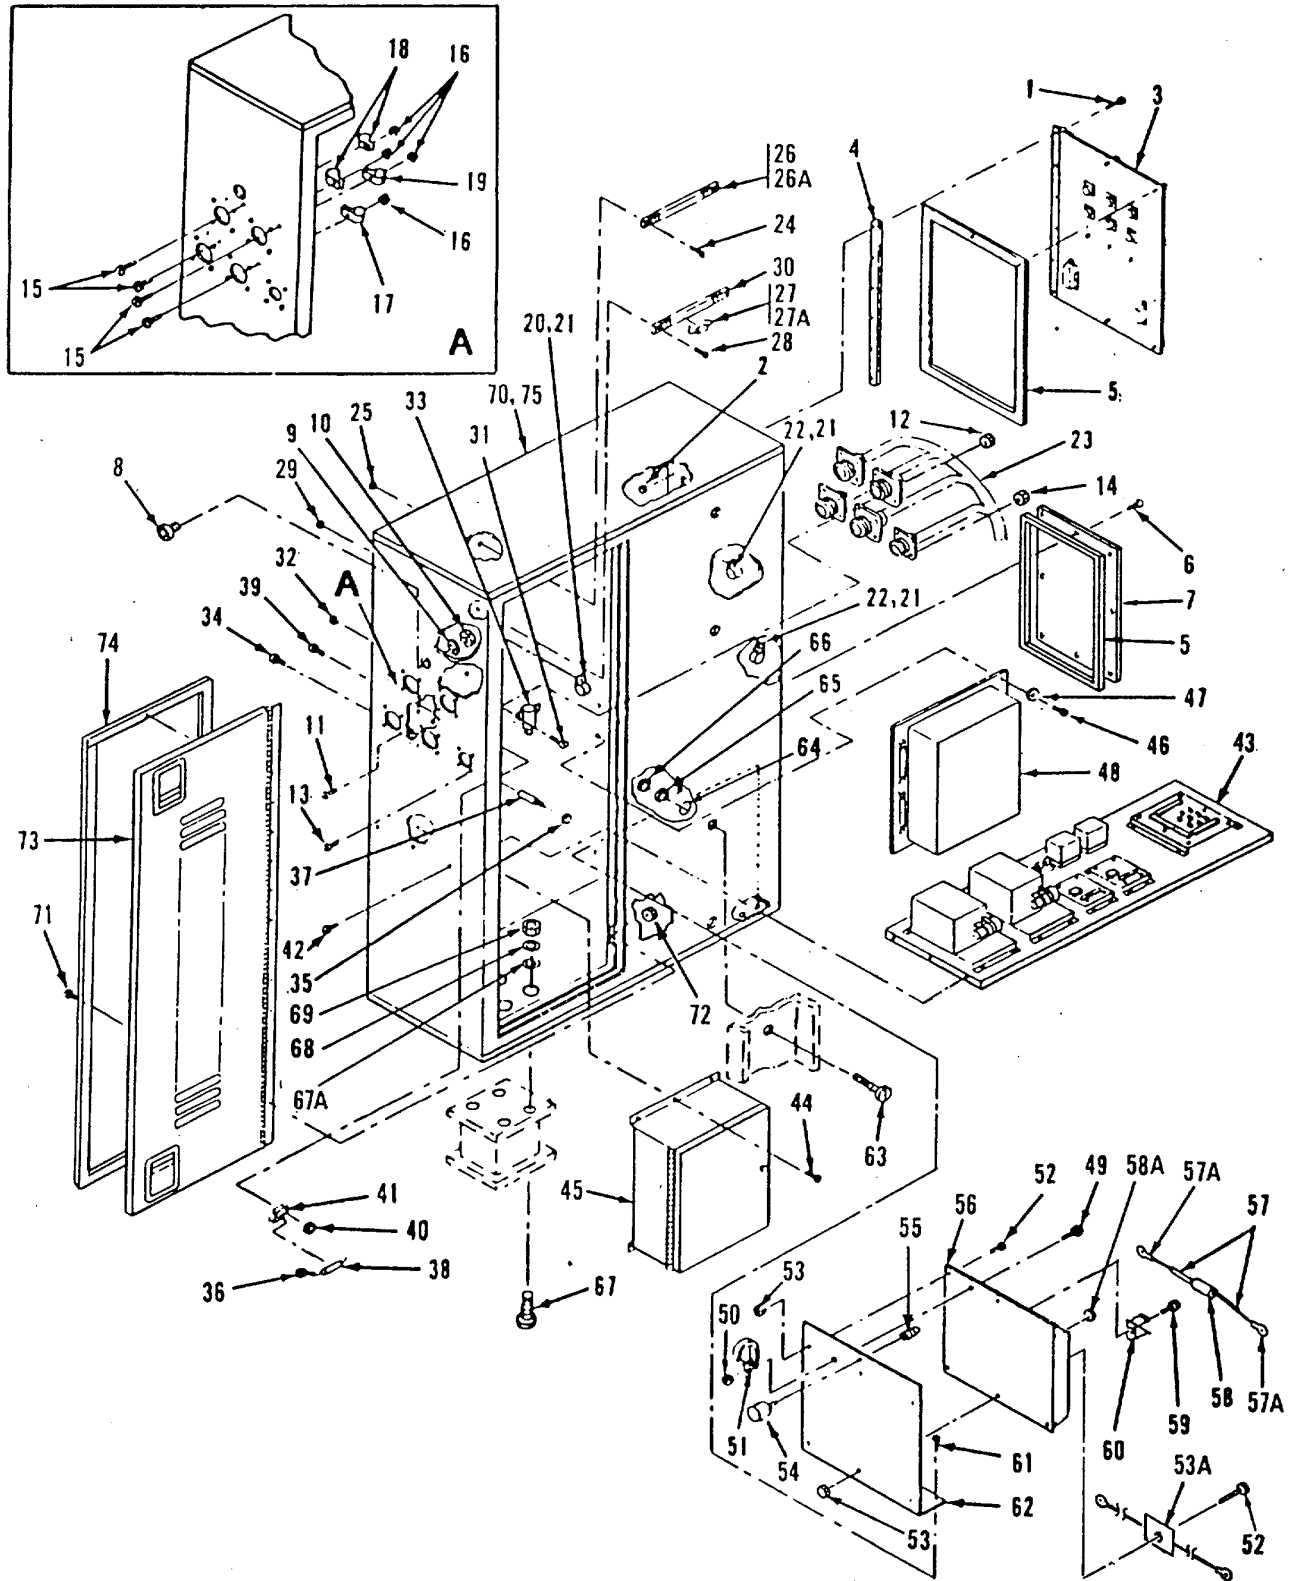

Figure 4-1. AC-DC Control Box Assembly, Exploded View
a. Replacement. (See figure 4-1.) The fuel transfer pump relay K20, (33, figure 4-1) is mounted on the right side wall of the AC-DC control box assembly. It is removed as follows:
4-3. REPLACEMENT. The six terminal boards (26 and 30, figure 4-1) are mounted on the right side wall of the enclosure (75). Replace as follows:
b. Replacement. Replace terminal board (26 or 30) on the enclosure side wall by attaching two screws (24) and nuts (25). Install diode (28) on terminal board (30) and remove tags.
4-4. RESISTOR R116. Resistor R116 (38, figure 4-1) is located on the right side wall of the enclosure (75).
a. Test. Disconnect either lead from resistor (38). With an ohmmeter (set Rx1 scale) measure resistance. It should be 5 ohms \pm 1 ohm. If not, replace.
- (1) Remove two nuts (35, figure 4-1) which secure resistor lugs (36) to the standoff (37). Then remove resistor (38) from clip (41) and separate lugs (36) from lead
a. Removal. (See figure 4-1.) The battery charger (45, figure 4-1) is mounted to the right side wall of the AC-DC control box assembly enclosure. Open door (73) and remove as follows:
Legend For Figure 4-1
- (1) Install battery charger (45, figure 4-1), to the enclosure with six screws.
- (2) Connect cables to terminals inside the battery charger. Be sure to observe polarity, POS and NEG on OUTPUT connections. Remove tags.
4-11. GENERAL. The governor controller A106 (56, figure 4-1) is the electronic portion of the load sharing and speed control unit which is part of the electric hydraulic governing system. The governor controller has two major functions, speed control and load sharing. It measures engine speed via a magnetic pickup and compares it to a speed reference. It then feeds corrections to the hydraulic actuator governor on the engine. It also has a speed sensing fail safe circuit, and a time ramp circuit (deceleration to idle speed - acceleration to rated speed).
4-12. INSPECTION. Inspect the governor controller front panel by removing the access cover (7, figure 4-1), paragraph 4-2. Inspect the connections on terminal boards for loose wires, inspect the potentiometers for signs of damage, and the control panel for scratches, dents or other damage.